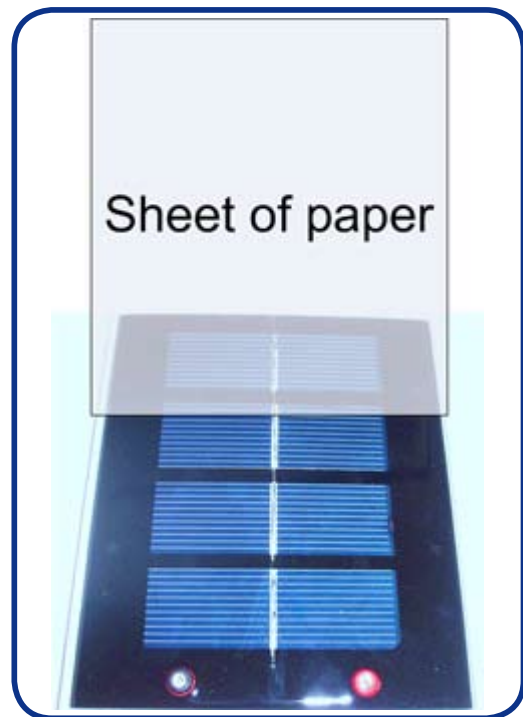

Figure 2 – Paper Shading ¼ Solar Panel
10. Apply a regular piece of paper directly over one fourth (¼) of the solar panel to cover that portion completely. Refer to Figure 2.